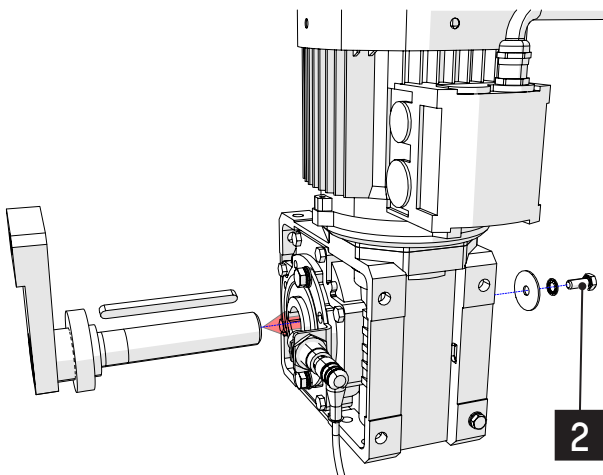

Fig. 33 - Detail of the screw fixing the gear motor shaft
7. Unscrew the screw **(2)** and remove the gear motor shaft (⇒ Fig. 33, page 34);